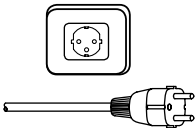

FIGURE 8.20
**ELECTRICAL SAFETY** The Figure 8.20 shows a plug. For 2000W and 2600W models, the electrical network must have a ground wire. For safety against electric shocks, use only the pressure washer in electrical installations with a 30 mA residual current circuit breaker. If necessary, hire a reliable electrician and have this safety component installed.